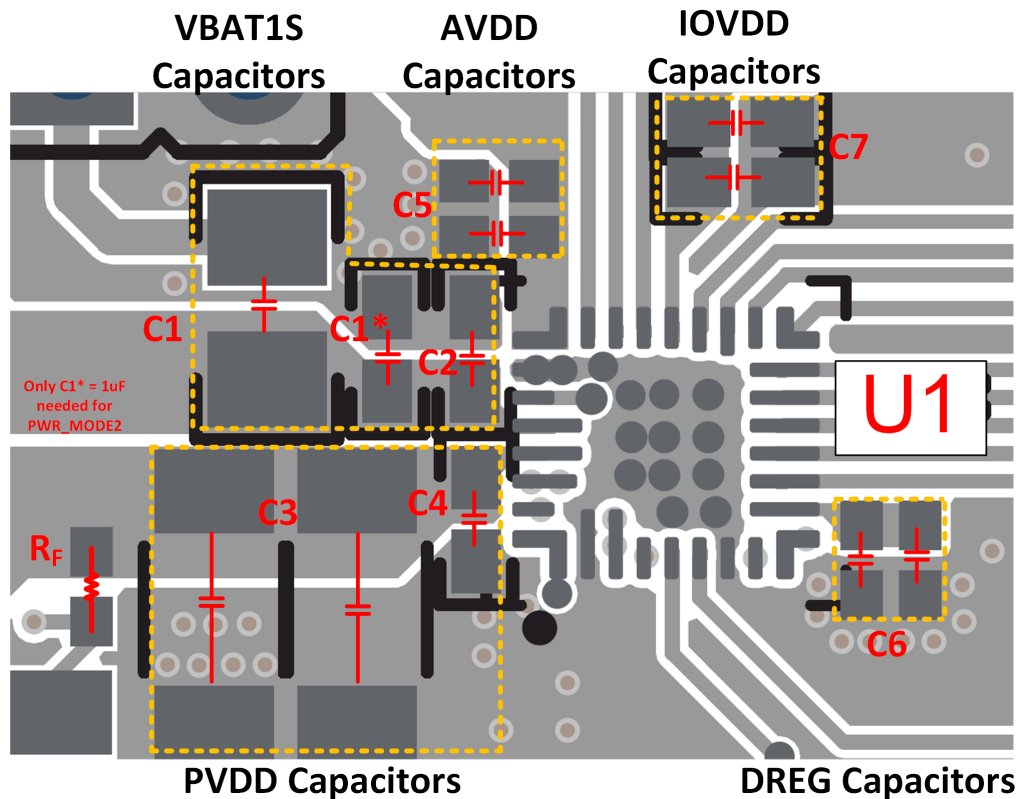

Figure 12-1. Layout and Component Placement - Top Layer
- Place decoupling capacitors of PVDD and VBAT1S as close as possible to the pins (see Figure 12-1).